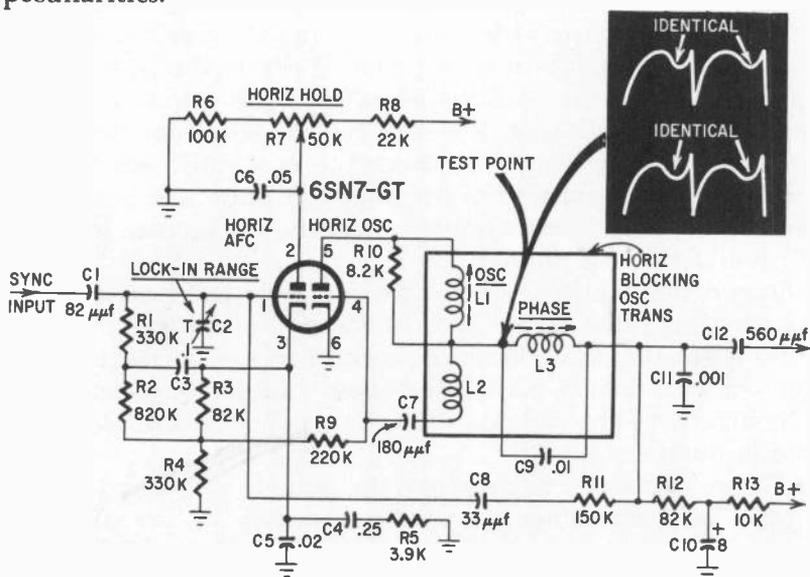

Fig. 701. Basic Synchroguide circuit. Either waveform is correct. See Fig. 703.
**T**HE Synchroguide is perhaps one of the most widely used horizontal oscillator circuits in the modern TV set. It is normally stable. However, when the circuit is internally upset by improper adjustments or component failure, it has idiosyncrasies unlimited! So, to troubleshoot a Synchroguide circuit sensibly (see Fig. 701), you must be familiar with its peculiarities.
The control circuit is somewhat more complicated and requires some explanation. For control it uses the pulse-width method—phase relations between the sync input and the sampling pulse (through R11–C8 in Fig. 701) from the oscillator's output are compared. Since the sync pulse occurs at a specific time as compared to the sampling pulse, the composite width is definite. When adjusted properly, the picture locks in horizontally at this point.
Fig. 703. Synchroguide waveforms. The superimposed sine wave (a) is shown in heavy lines. The drawing (b) shows the normal waveform that appears at the test point in Fig. 701. Some manufacturers recommend the bottom waveform (c).
an incorrect waveform but, because it has a very critical squegging point, a slight drift may throw it into tantrums. Always check with a scope, using a low-capacitance probe at the *test point* (junction of L1, L2, L3 in Fig. 701). If a low-capacitance probe is not available, a 5- $\mu\text{f}$  capacitor in series with a direct probe will work satisfactorily.